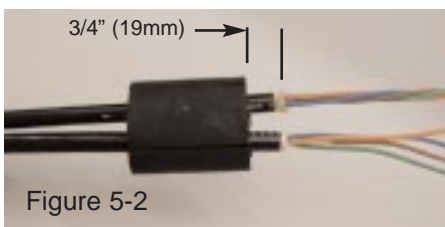

Figure 5-2
**5.02** Allow 3/4" (19mm) to protrude through the closure side of the grommet. (Figure 5-2)